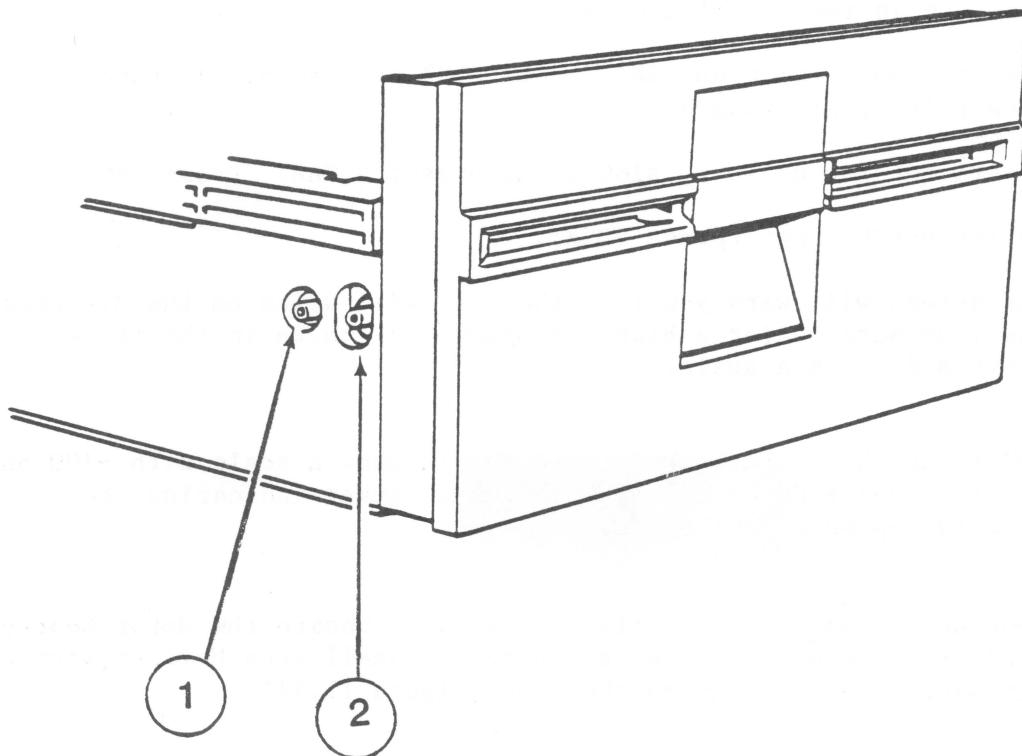

FIGURE 12
2. Note the two setscrews holding the write-protect switch in place (Figure 12,#1 & 2). The switch is located on front left side of housing as you face drive door. The far setscrew, (Figure 12,#1), forms a pivot for switch; the near setscrew (Figure 12,#2), sets switch position.
4. Loosen the rear setscrew, then loosen the front setscrew and raise up on it (Figure 12,#2) until the switch disables, and tighten setscrew.
5. Tighten rear setscrew (Figure 12,#1).